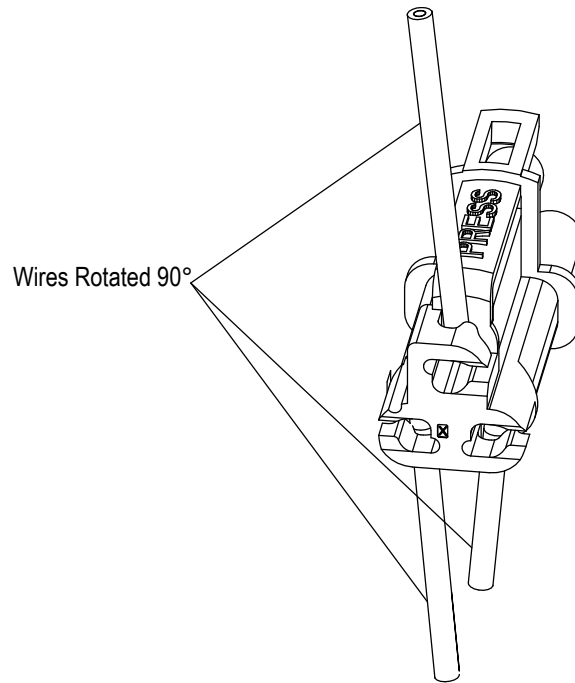

Figure 5
5. Rotate the wire 90°. See Figure 5.